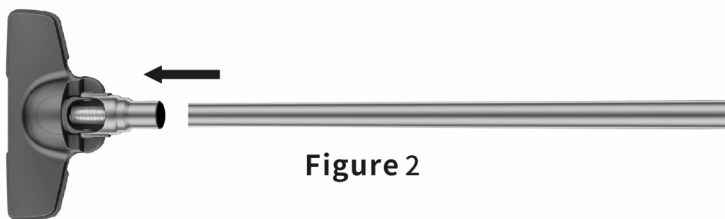
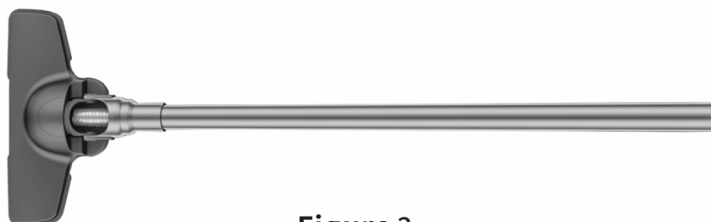

Figure 2
Figure 3
1. Install the floor brush assembly: as shown in Figure 2, install the straight pipe assembly into the floor brush assembly. After installation, as shown in Figure 3.